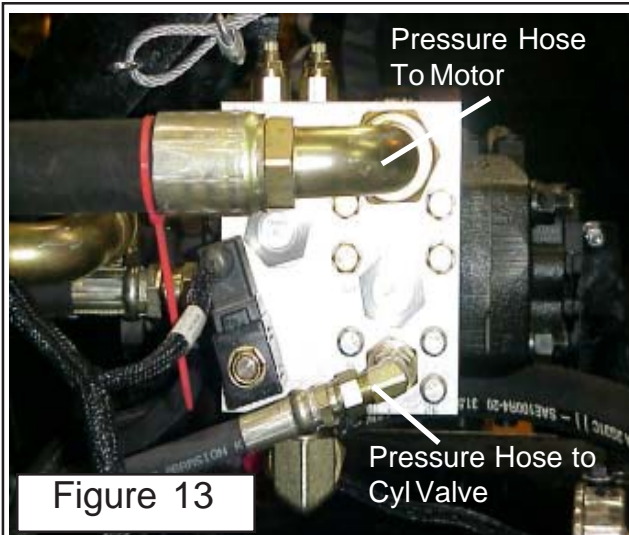

Figure 13
B. The Pressure Hoses run down the right side of the tractor and connect to the control valve block which is bolted to the pump on the right hand side (See Figure 13, 14 & 15). The small hose is the pressure to cylinder control valve, the larger hose is the pressure hose for the mower motor circuit. These hoses should be connected first. (See Figure 13). Bolt the hose rings to the right side of tractor.
The pump / motor control valve block, this bolts to the right hand side of the pump (See Figure 13, 14, 15 & 16). The pressure and return hoses are connected to this valve block.